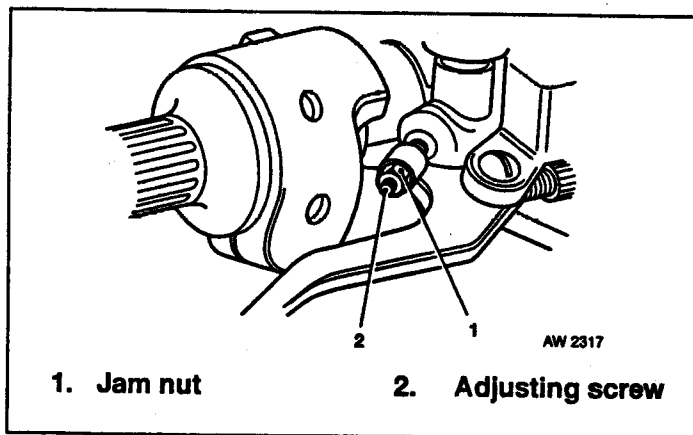

Fig 12.1 Front Brake Control Lever Free Play Adjustment
- (1) Fig 12.1 refers. Loosen jam nut (1).
- (2) Turn adjusting screw (2) until lever is comfortable for rider.